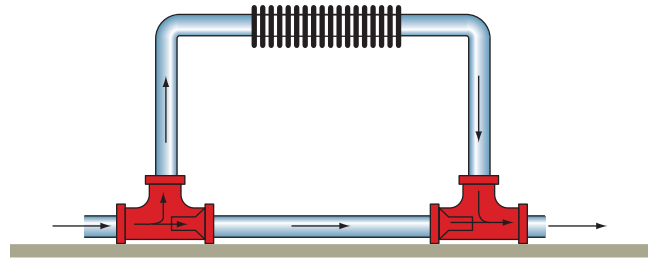

FIGURE 17-45 Two diverter tees are needed if the radiator is located above the main loop and there is significant resistance in that branch.
- ✓ If the terminal unit is located above the main hot water loop and the length of the piping in the terminal unit branch is excessive (too long with respect to the main hot water line), two diverter tees should be used—one on the supply side of the terminal unit and one on the return side of the terminal unit (Fig. 17-45).